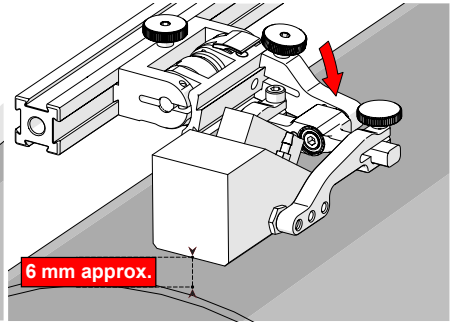

Fig. 138 - Lower to scanning surface
2. Push the probe holder yoke down toward the inspection surface until the wedge is approximately 6 mm ( $\frac{1}{4}$  in) above the inspection surface (Fig. 138).